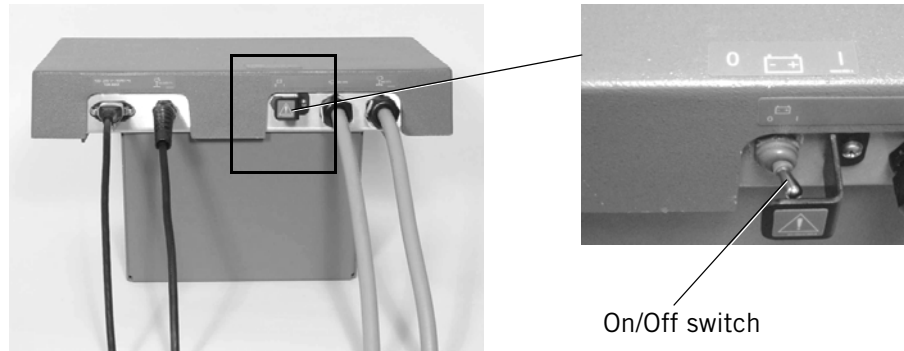

Figure 13-5: External Battery On/Off Switch
The external battery must be turned ON in order for the external battery to be used. Make sure the ON/OFF switch located on the external battery (Figure 13-5) is in the ON (I) position. When AC power becomes unavailable, the ventilator automatically switches to external battery operation without interruption in ventilation. When the external battery is depleted, the ventilator automatically switches to backup battery power.